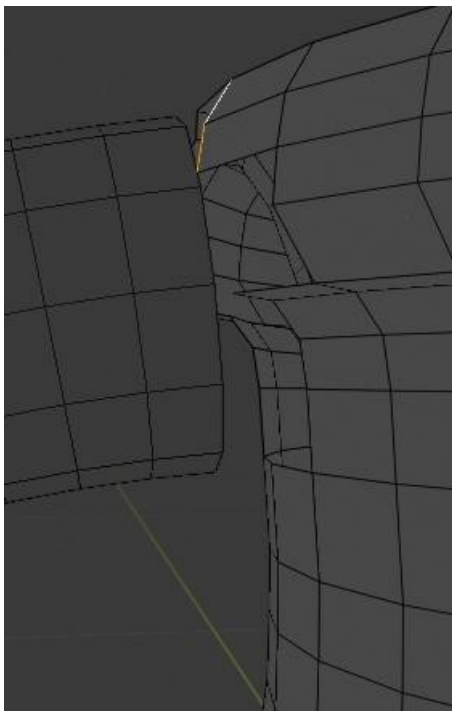

Figure 27
- 11) The handle is ready but still not attached to the main vessel. Numpad 1 and G+X to move the handle further from the vessel. Select the vessel, turn to edit mode and delete the faces that the handle would be attached to (the adjoining ones) (Fig. 27).